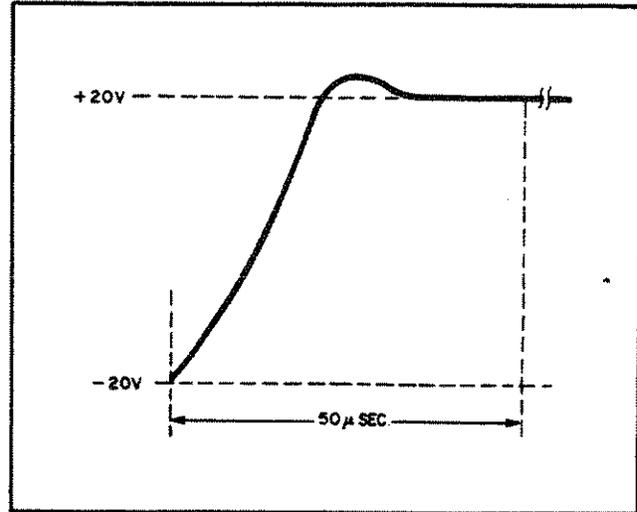

Figure 5-7. Typical Programming Speed Waveforms
- e. Adjust oscilloscope to observe rise time of one squarewave. The waveshape should be within the tolerances shown on Figure 5-7 (output should change from maximum rated negative value to maximum rated positive value in less than 50μsec).